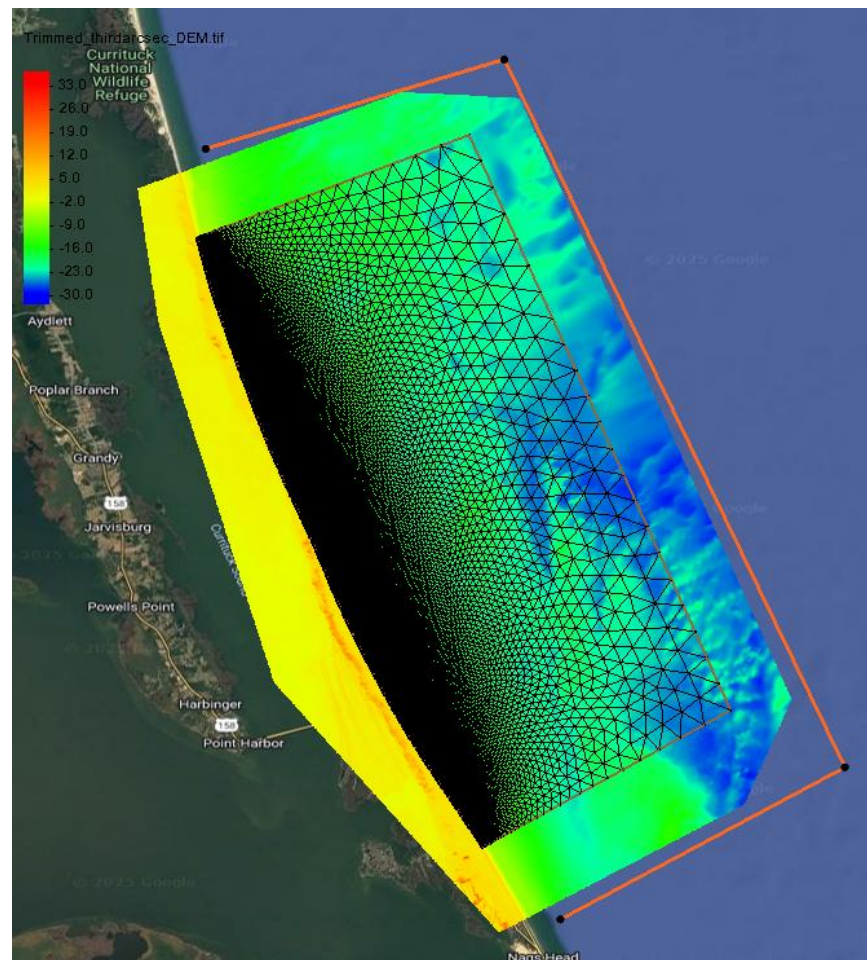

Figure 4: Boundary Condition Arcs
7. Double-click near the intersection of the south lateral boundary and the coastline arc, see Figure 4.